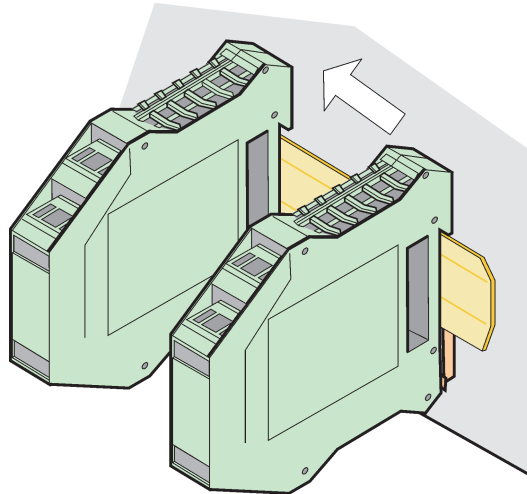

Figure 74 Attaching multiple expansion modules
4. For multiple modules, install the modules side-by-side on the DIN rail and slide the modules together (Figure 74). This way the network and power supplies in the modules are connected together.